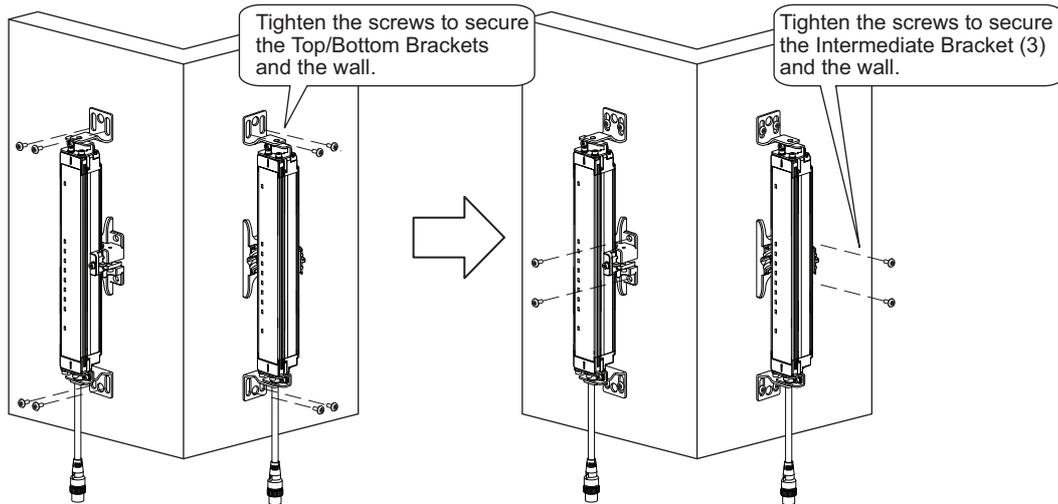

Figure 11
**5.** Tighten the screws to mount to the wall by the order of Top/Bottom and Intermediate Brackets. (Figure 11)